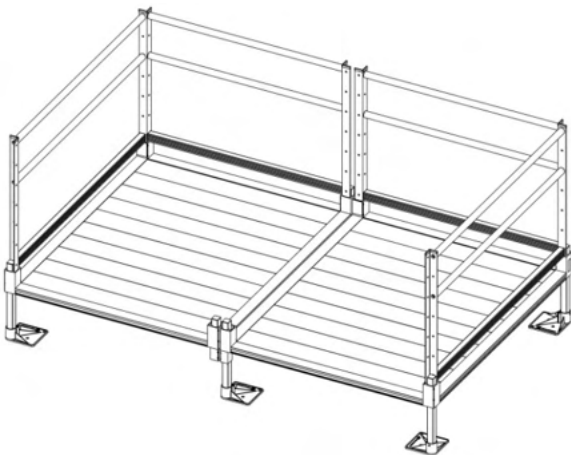

FIG. 2.11
- FIG. 2.11 Low profile platform turn back configuration (two 5' x 4' platforms shown combined to make 5' x 8' turn back platform)
- 2.6.3. All three require the same procedure for assembly except for the turn back (FIG. 2.11), which requires an additional PPPC (PLATFORM TO PLATFORM CONNECTOR).